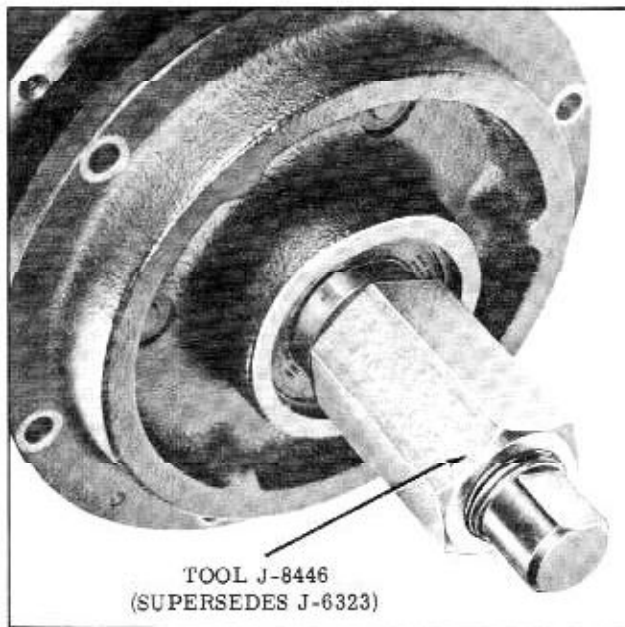

Fig. 14-28 Installing Pulley Hub
1. With pulley cover in place start pulley hub on compressor shaft. Place Spacer J-6323-5 over the tool bolt with the chamfered side away from the tool if using Tool J-6323. Thread bolt of Tool J-6323 or J-8446 (without spacer) onto compressor shaft. While holding the tool bolt, turn the tool nut counterclockwise to press the pulley hub onto the compressor shaft. (Fig. 14-28) Remove tool(s).